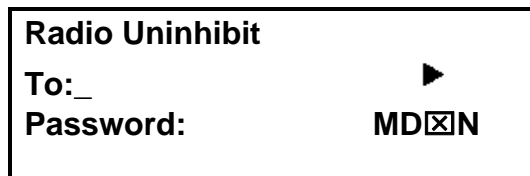

Figure 17
**To Uninhibit a radio,** Press F then Press A or B until the selection is displayed and enter the target radio's ID, enter the password and then Press #. The target radio will be returned to normal operation. The target radio should send an ACK if successful. Figure 17 shows the Radio Uninhibit entry mode.